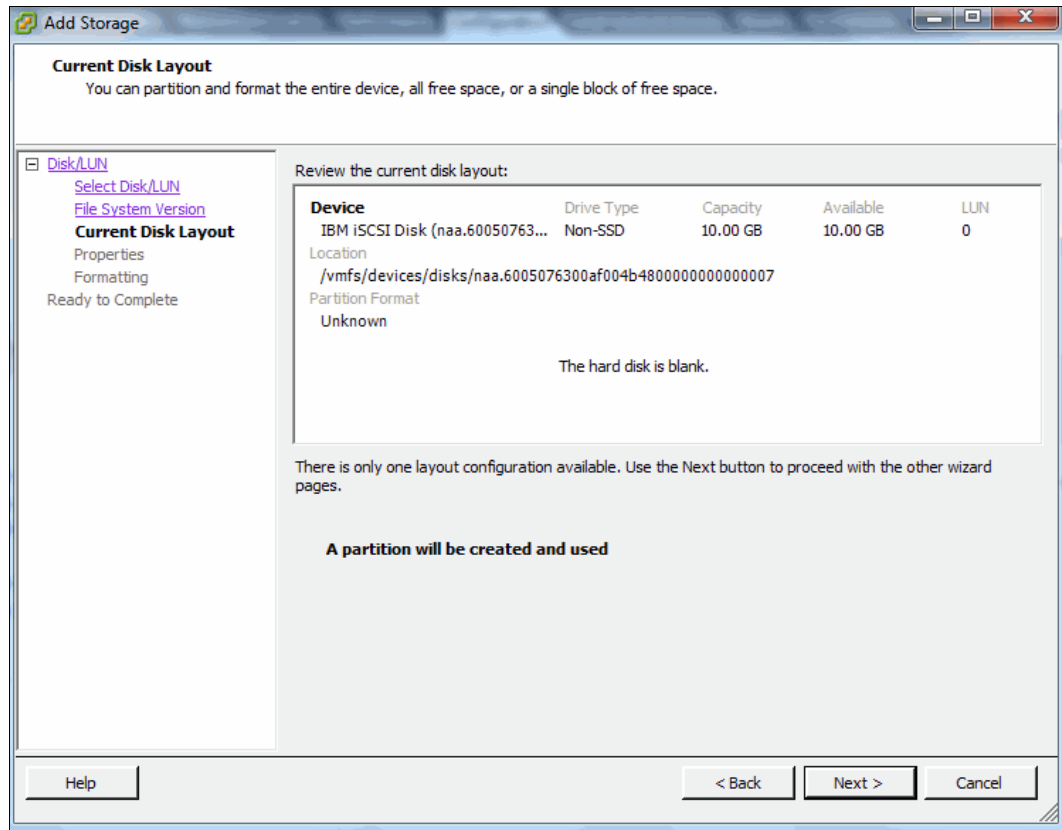

Figure 5-67 Review the current disk layout
5. Review the disk layout and click **Next** to continue, as shown in Figure 5-67.